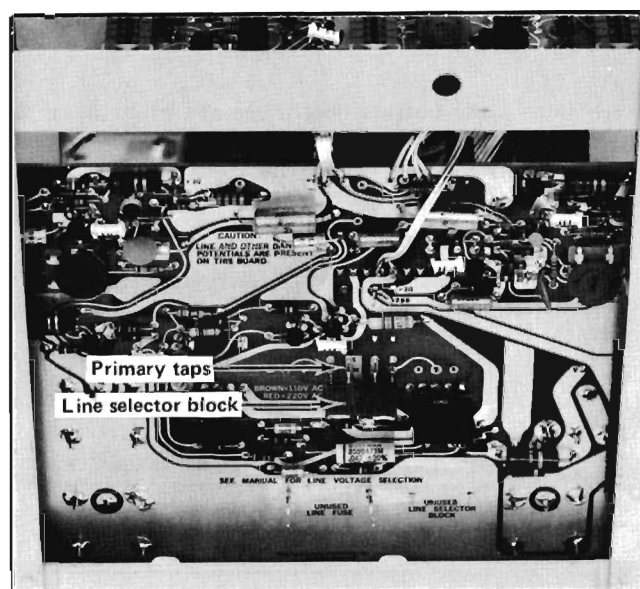

Fig. 2-1. Location of the line-selector block on the Power Supply circuit board.
3. To convert from 120 volts to 220 volts nominal line voltage, or vice versa, remove the line-selector block from the square-pin connectors (see Fig. 2-1) and replace it with the other block. Remove the line fuse from the fuse holder located on the rear panel of the display module and replace